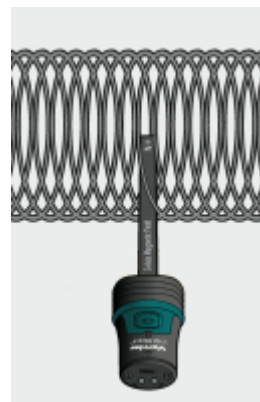

Figure 2
1. Hold the magnetic field sensor between the turns of the Slinky with the y-axis label at the center of the coil (see Figure 2). Rotate the sensor and determine which direction gives the largest positive magnetic field reading. What direction is the y-axis label on the tip of the sensor pointing?
2. Position the magnetic field sensor between the turns of the Slinky near its center, lengthwise. Rotate the sensor so that the y-axis label points directly down the long axis of the solenoid in the direction that gives the largest positive magnetic field reading. The y-axis label of the sensor should still be at the center of the coil, as shown in Figure 2. This will be the position for all of the magnetic field measurements for the rest of this part.